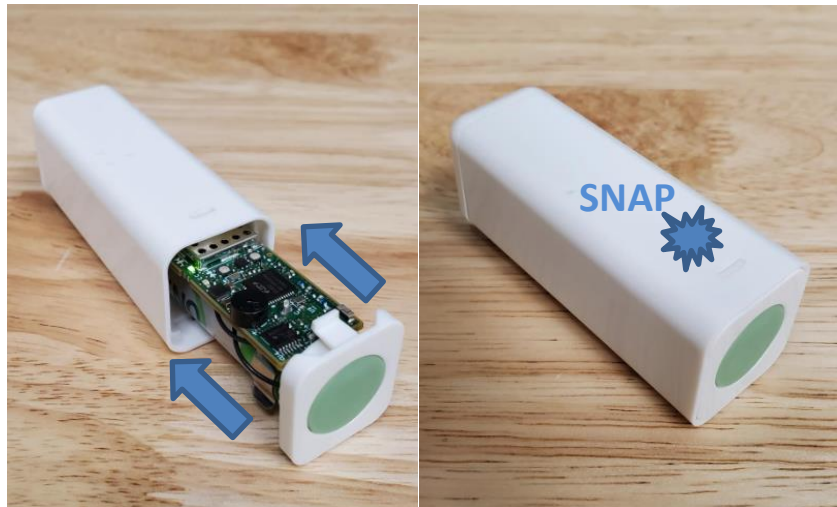

Figure 2-7: Replacing the PCBA and End-Cap
4. Replace the PCBA and end-cap in the same orientation as before and push until it firmly snaps shut as shown in Figure 2-7.